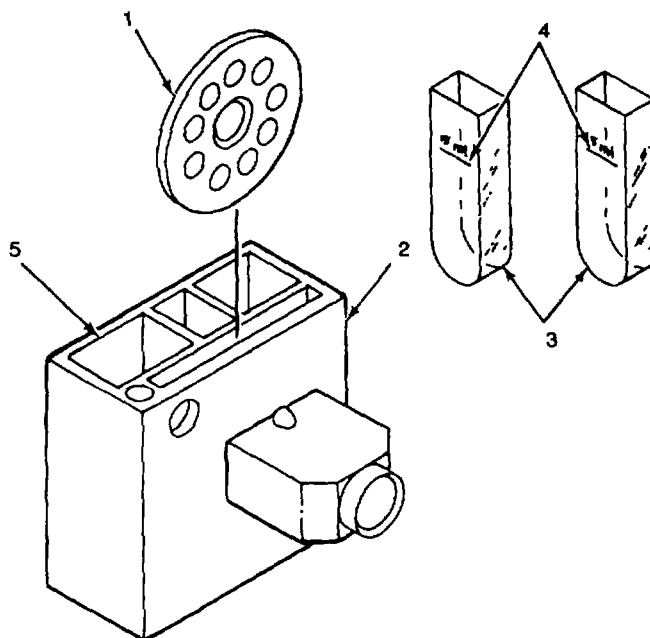

Figure 2-31. Chloride pH Test
- (6) Collect just enough water to cover the bottom of the second cell (4).
- (7) Add two DPD No. 1 tablets and crush with the plastic rod (5).
- (8) Fill this cell to the mark (6) with the water under test and insert it in the left hand cell space (7) of the comparator (3). Compare with the color standards of the appropriate disc as rapidly as possible. Record the result which is the closest match as the value of the free residual chlorine level of the test sample. Interpolation between two values may be necessary.
d. Perform chloride pH test as follows (Figure 2-31):
- (5) Add the indicator solution to the cell in the LEFT (5, Figure 2-31) opening only. (Water sample without indicator solution in right opening compensates for color and turbidity.)
- (6) Hold the comparator (2) to your eye and face a good light source (daylight but not the direct rays of the sun or artificial light reflected from a white surface). Be sure your fingers do not cover the light window in the back of the comparator. Rotate the pH color disc until a color on the disc matches the color of the cell in the left opening. The readings can be made directly from the round window in the front of the comparator. The value is expressed as the pH number.
- (7) If the color of the cell in the left opening is between two colors on the pH color disc, the value must be estimated.
- (8) In making the pH test, be careful to avoid touching the sample or the cell with the dropper. Never place the pH dropper on a laboratory bench or other surface because the adherence of the slightest amount of acid or alkali to it will produce erroneous results.
- (9) When test has been completed, empty the samples and wash the cells with dean water.